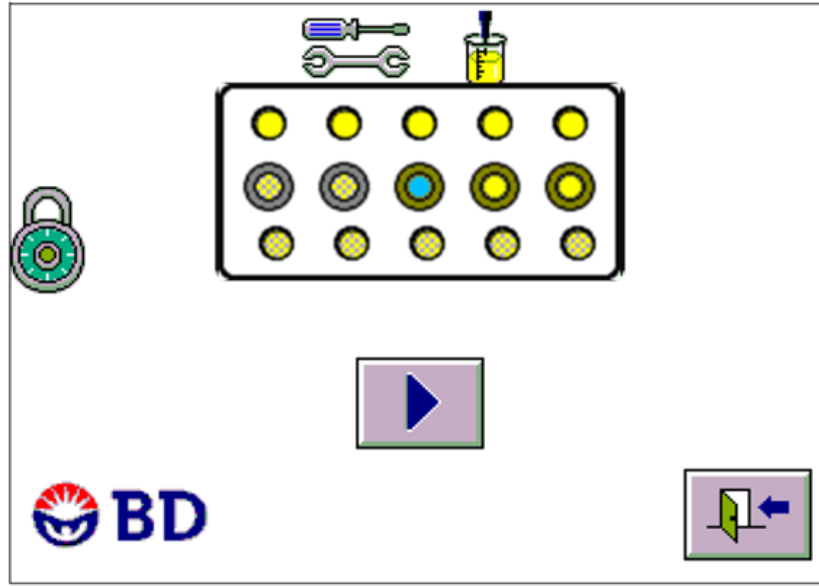

Figure 6-3 – Pipettor Verification Display
The Pipettor Verification display enables you to check the accuracy of the pipettor. To verify pipettor accuracy, you uncap and pre-weigh 5 AST and 3 ID broth tubes, or 10 AST and 5 ID broth tubes (Emerge panel users) then place them in a Sample rack as shown in the display (Figure 6-3). Another ID tube must be emptied and filled to 4.5 mL with deionized water. After the pipetting operations are completed, reweigh the tubes. If the difference is within the specified tolerance, the pipettor's accuracy has been verified.
- 2 For non-Emerge panel users: Set up 5 AST broth tubes and 3 ID broth tubes in a Sample rack as shown on the display (Figure 6-3).
For Emerge panel users: Set up 5 AST broth tubes, 5 AST 4.5 mL broth tubes, and 5 ID broth tubes in a Sample rack as shown on the display (Figure 6-3).
- 4 Add 4.5 mL (\pm 10%) of deionized water to the ID tube in the middle of the rack, designated in blue in the Pipettor Verification display (Figure 6-3).